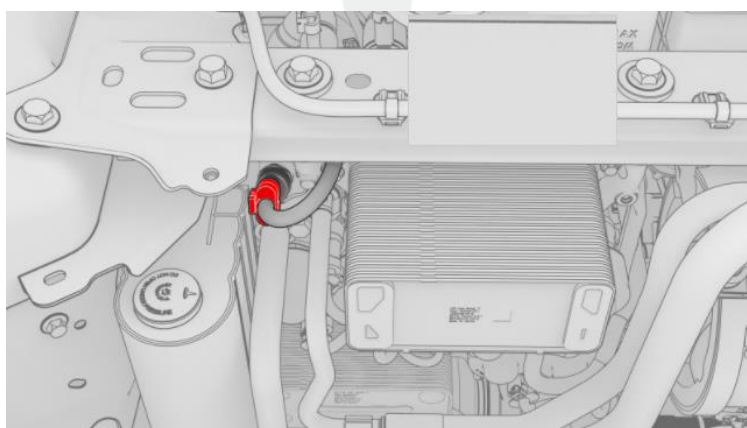

Figure 3
5. Release the locking tab, and then disconnect the electrical harness from the low pressure P/T sensor connector (Figure 3).
18. Connect the electrical harness to the low pressure P/T sensor connector, and then fasten the locking tab (Figure 3).